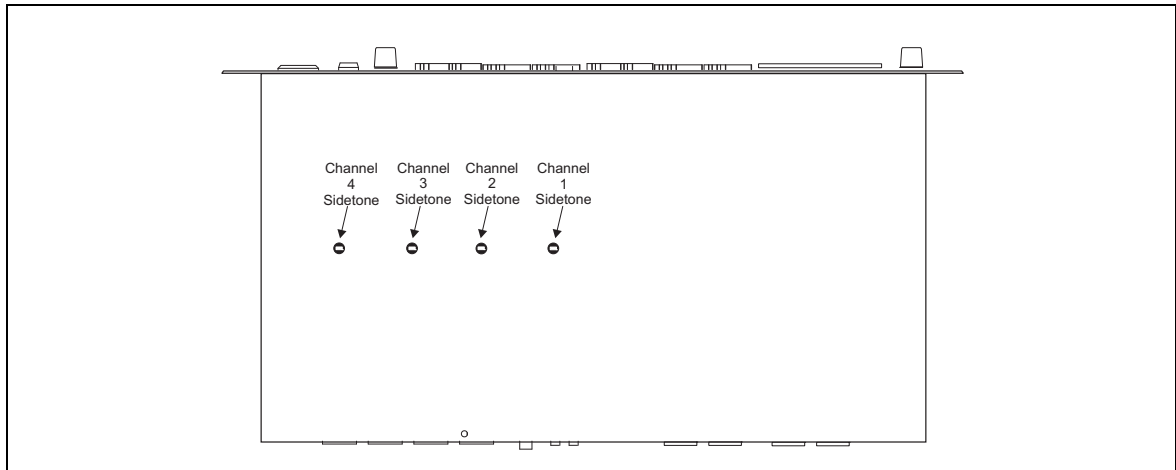

Figure 4. Sidetone Adjustment diagram (MS-4002 bottom view)
4. Using a small, standard screwdriver, adjust the **channel 1 sidetone** (Figure 4) through the access hole in the bottom of the MS-4002 to minimize the tone volume.